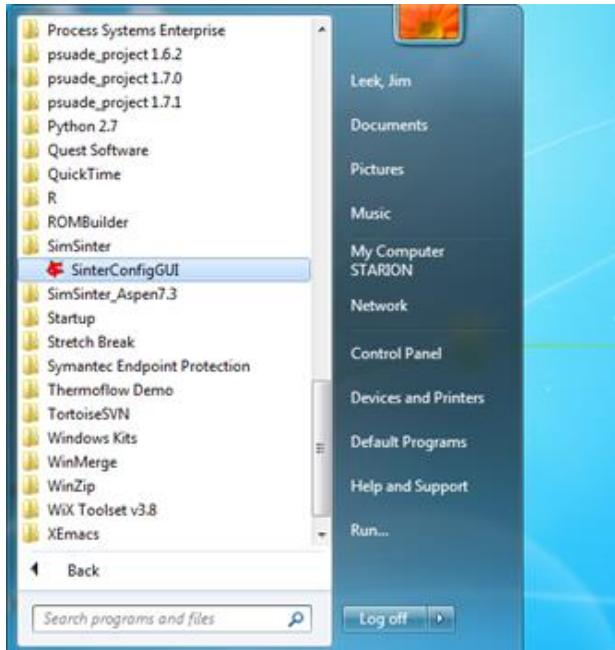

Figure 1: Start menu, SinterConfigGUI.
1. Open the “SinterConfigGUI” from the “Start” menu, as shown in Figure 1.